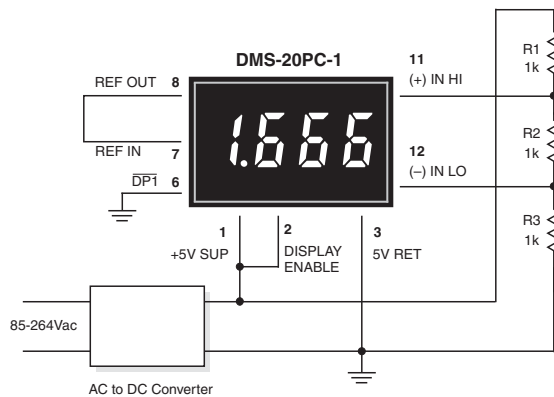

Figure 3. Differential Input Configuration
2. Differential Input Configurations: Differential measurements can be made with all DMS-20PC meters. Figure 3, though not a practical real-world application, uses a voltage divider to demonstrate the concept of a differential input signal. Be careful not to exceed the $\pm 2V$ common mode voltage limitation for 5V-powered meters.